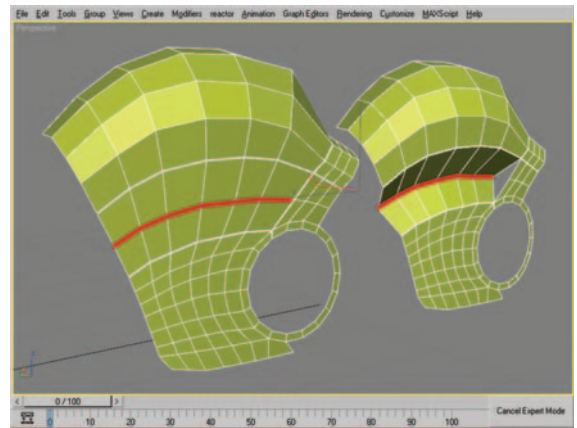

Figure 8.34 Edge selection before and after moving with the Move tool.
36. At the Edge subobject level, select the row of edges seen in Figure 8.34 (left) and use the Move tool to move them back, creating a “V” shape as seen in Figure 8.34 (right).